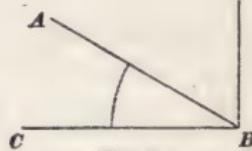

FIG. 9.
**27.** An **acute angle** is less than a right angle.  $ABC$ , Fig. 9, is an acute angle.